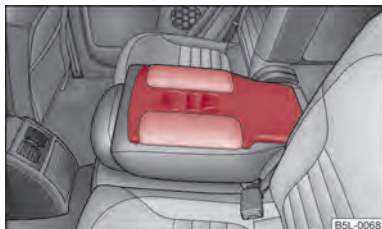

Fig. 55 Rear seats: Armrest
- The middle seat backrest can be folded ⇒ page 67, Folding rear seats forwards forwards and used as armrest or table with cup holder ⇒ fig. 55.